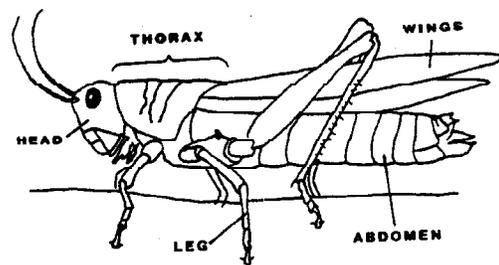

Figure 1.4 Basic anatomy of an insect.
In the adult stage, with few exceptions, all insects have two physical characteristics in common: (1) three pairs of jointed legs and (2) three body regions—head, thorax, and abdomen. The thorax bears wings (if present) and three pairs of legs (Fig 1.4). The abdomen is usually composed of eleven segments; along each side of the segments are openings, called *spiracles* through which the insect breathes.